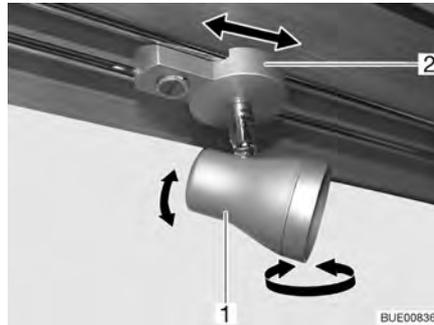

Fig. 51 Spotlight
**Turning:** ■ Grasp the housing (Fig. 51,1) and turn it.
**Shifting:** ■ Grasp the holder (Fig. 51,2).